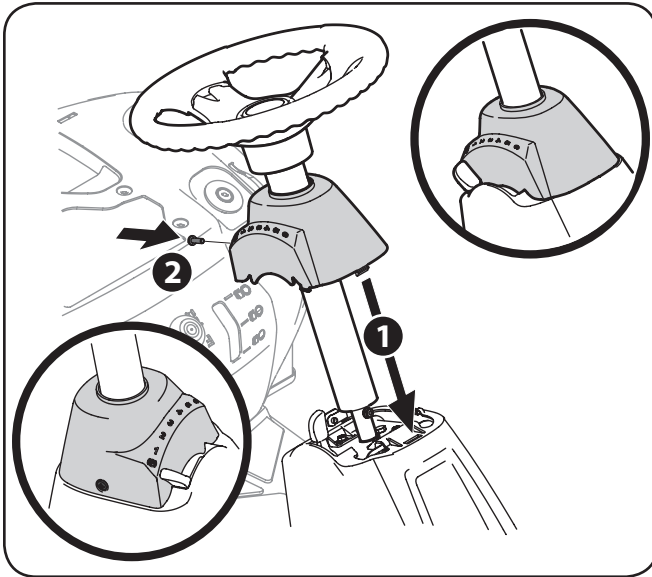

Figure 3-3
7. Slide the Pedestal cap down onto the tractor (1) and slightly rotate to the right to clip into place. Secure the pedestal with the hex screw (2) previously removed. See Figure 3-3.